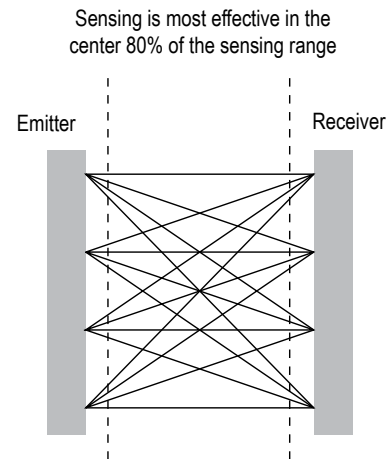

Figure 1. LX Series optical crosshatch pattern
1. The best sensing resolution occurs within the center 80% of the sensing range (Figure 1 on p. 2).